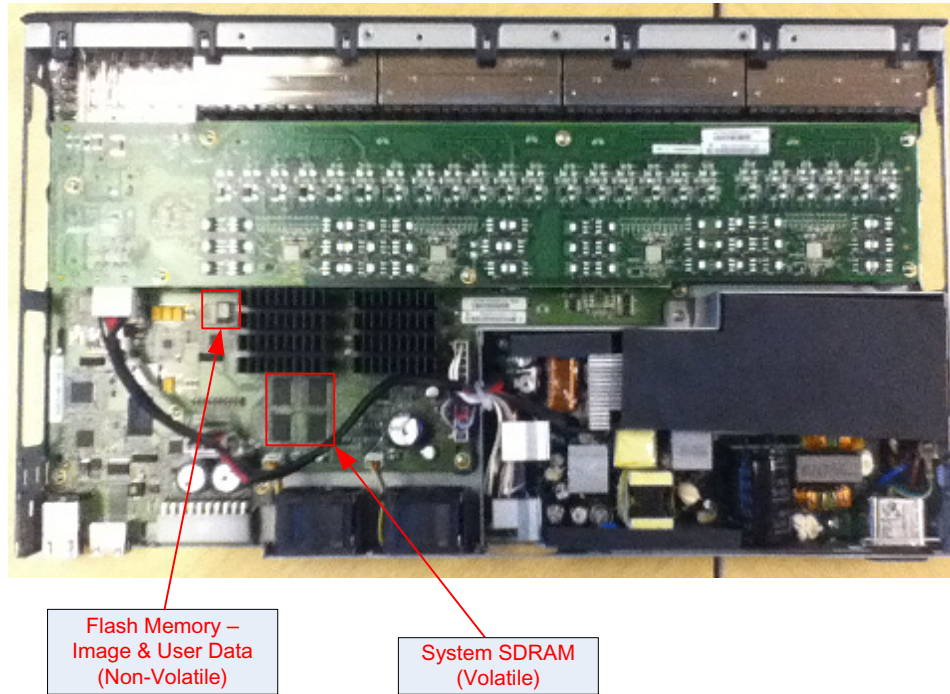

Figure 3-6: EX2200 Locate NV Storage (Flash)
6. Locate NV storage (Figure 3-6)